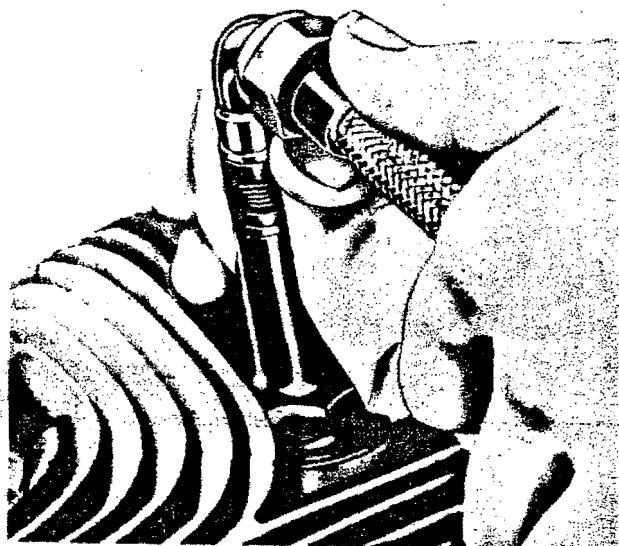

Figure 7-30. Install Connector
k. Without touching the connector or spring with the fingers, install the connector in the sparkplug barrel. Be very careful that the connector is inserted straight into the barrel and not "cocked," since this can result in a cracked insulator or sparkplug barrel [Figure 7-30].